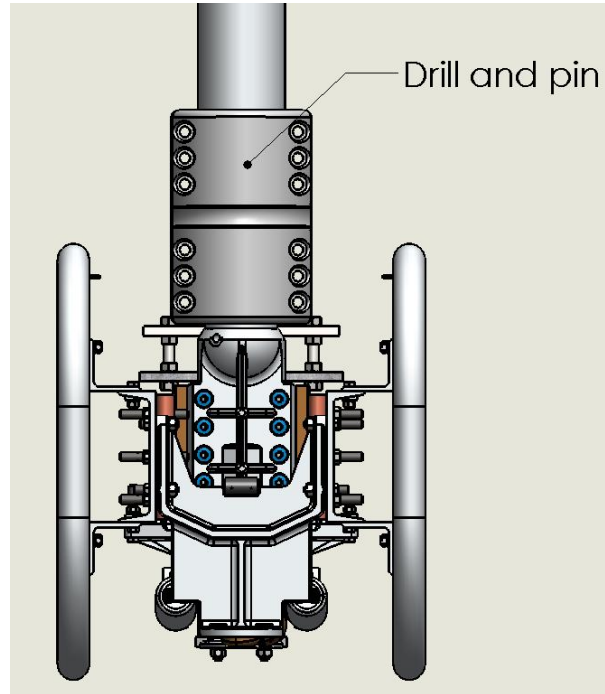

Figure 17: Blade socket pinning location
- 16.4. Drill and pin Blade socket after final adjustment. See **Figure 17**.